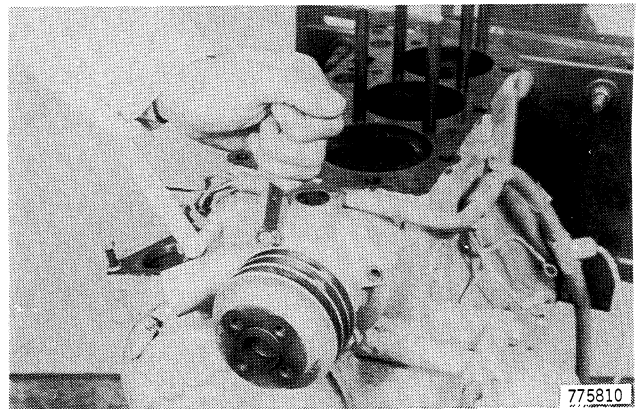

Figure 64
8. Remove the nuts, lock washers and cap screws from the water pump, Figure 64.